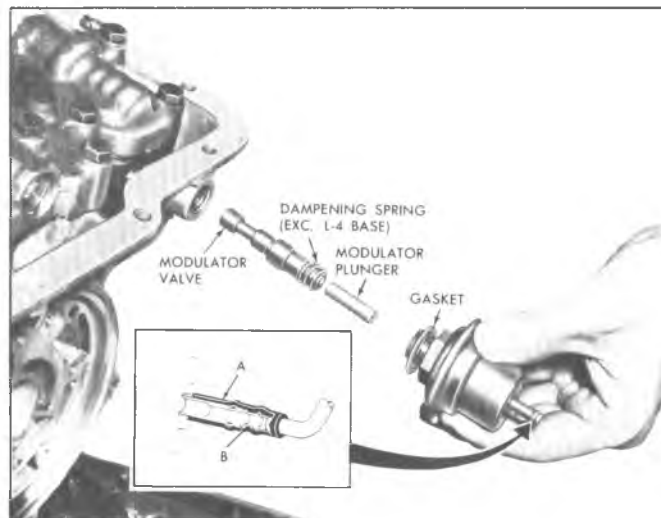

Fig. 10PG--Vacuum Modulator, Dampening Spring, Plunger and Valve
21. Remove the vacuum modulator and gasket, and the vacuum modulator plunger, dampening spring (except L-4 base) and valve (fig. 10PG).